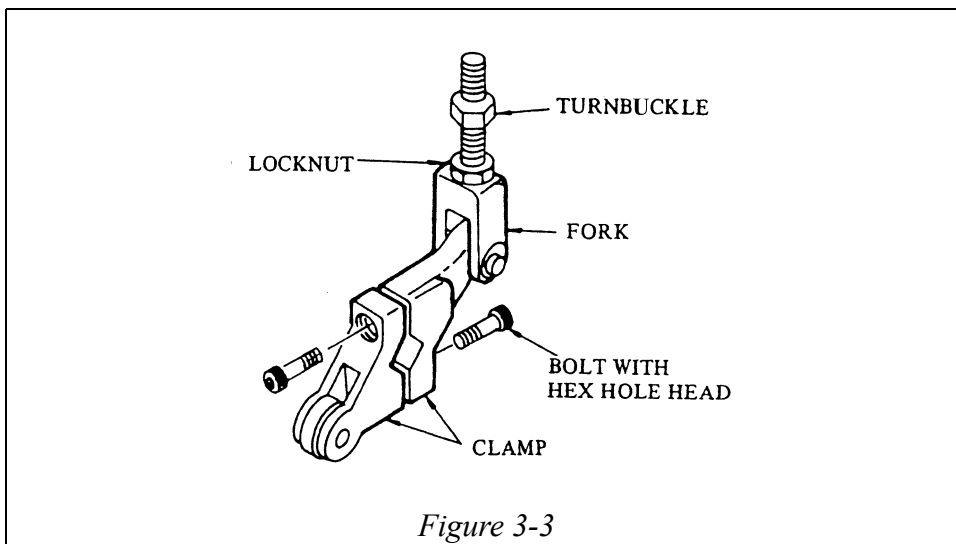

Figure 3-3
- (4) Loosen the bolts (hex-hole head) of the clamps which connect the actuator stem to the valve stem. (See Figure 3-3)
- (5) Remove the four bolts which clamp the yoke to the valve body and then remove the actuator from the valve body.